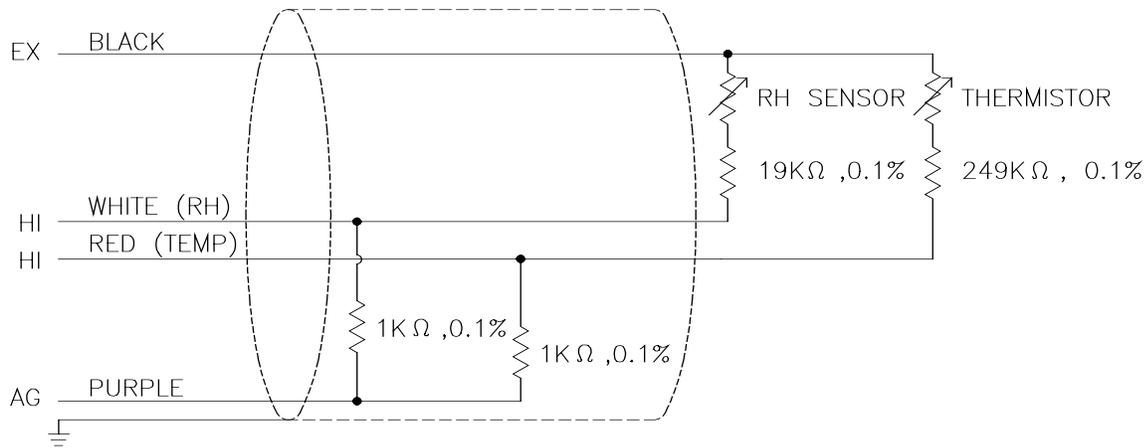

FIGURE 3. 207 Probe Schematic
The 207 schematic is shown in Figure 3. The 207 probe uses two single ended analog channels, the red (temperature) and white (RH) leads can be connected into any HI or LO inputs.